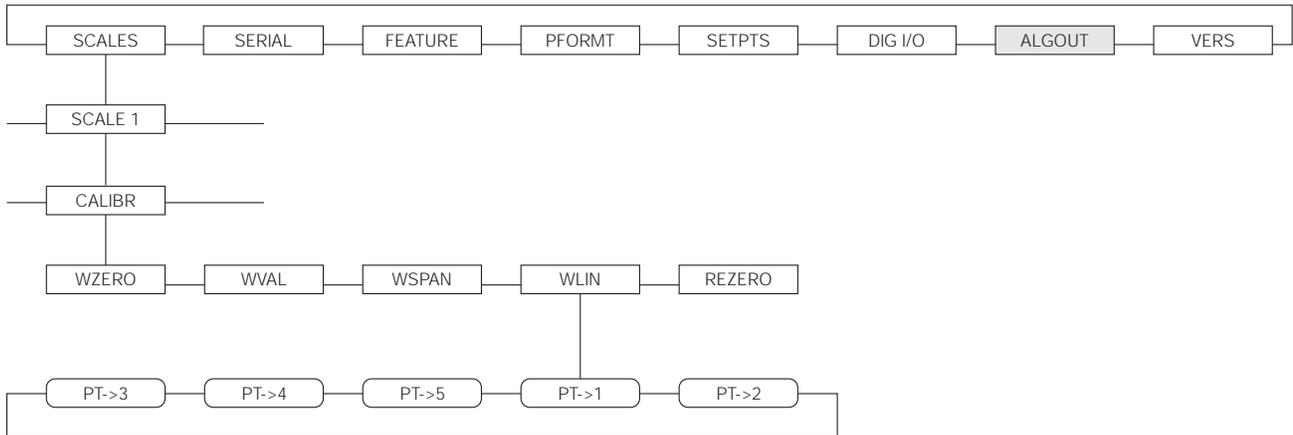
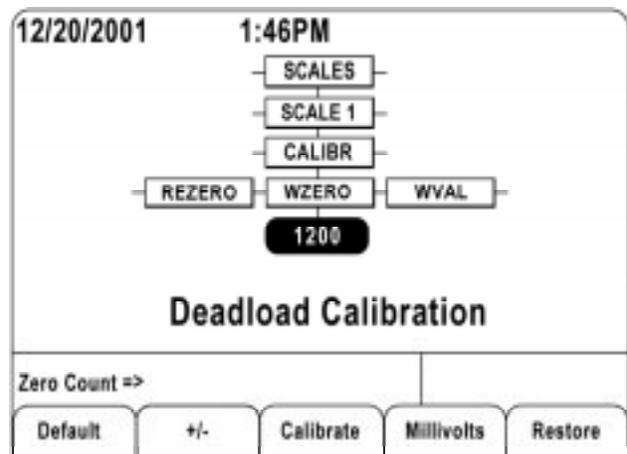

Figure 4-1. Calibration (CALIBR) Submenu
Figure 4-2. WZERO Calibration Display
The CALIBR submenu (under the SCALES menu, see Figure 4-2) is used to calibrate the 920i. The zero, span, and linear calibration point displays provide a set of softkeys used specifically for calibration procedures:
2. With the *SCALES* menu highlighted, press the down key, then select the scale to be calibrated. Press down again (*GRADS* parameter highlighted), then press left to highlight the *CALIBR* submenu (see Figure 4-1). Press down to go to zero calibration (*WZERO*). See Figure 4-2 on page 36.